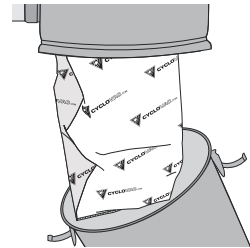

figure 22
1. To access the bag, unlatch the two clips and remove the dust receptacle (**figure 22**).